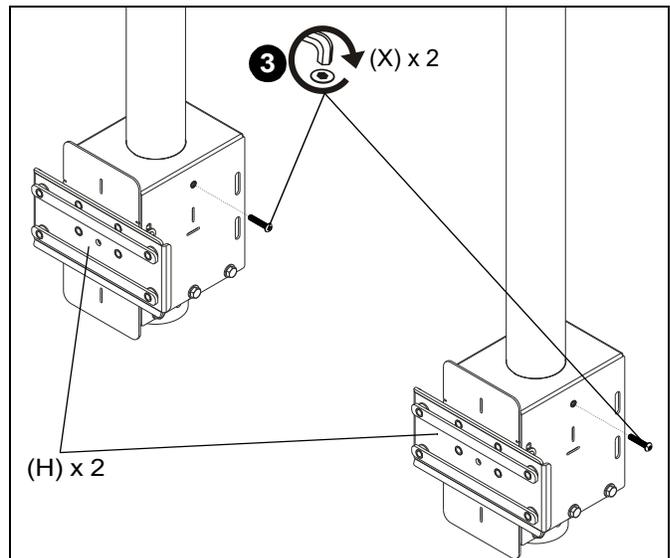

Figure 3
3. Install 1/4-20 x 1 1/4" button head cap screws (X) into each mount assembly (H) to prevent column from rattling. (See Figure 3)